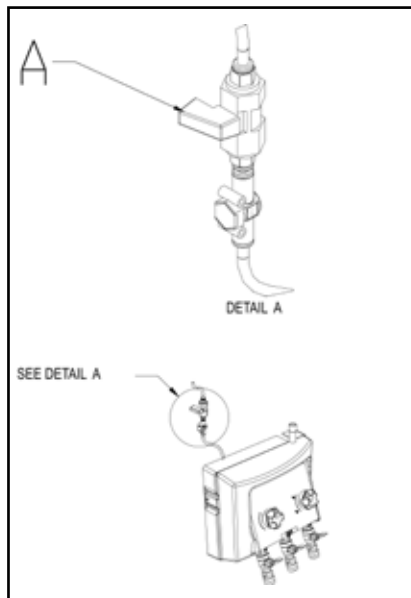

Fig. 7
1. Check that water- and air supplies for the system are open. (see A, Fig.7, air). Activate central chemical supply if present.
3. Close the air supply (A, Fig. 7)